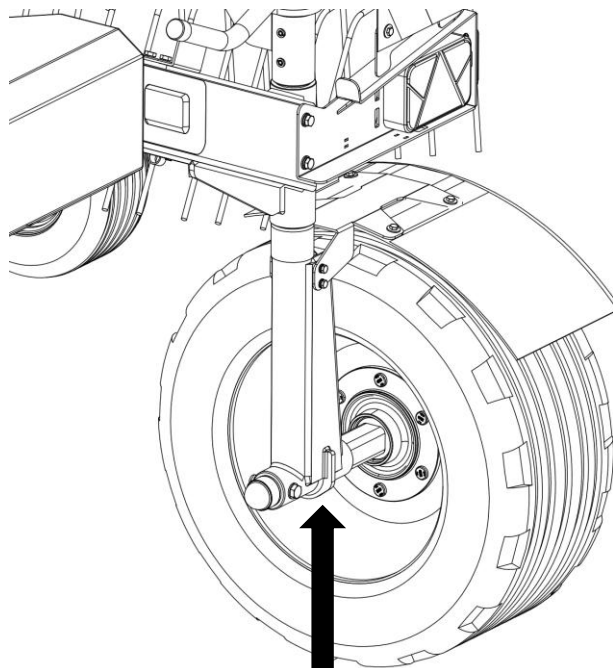

Figure 12. Wheel change support point
- Place the jack under the indicated point on the wheel to be removed (Figure 12) and lift the machine.